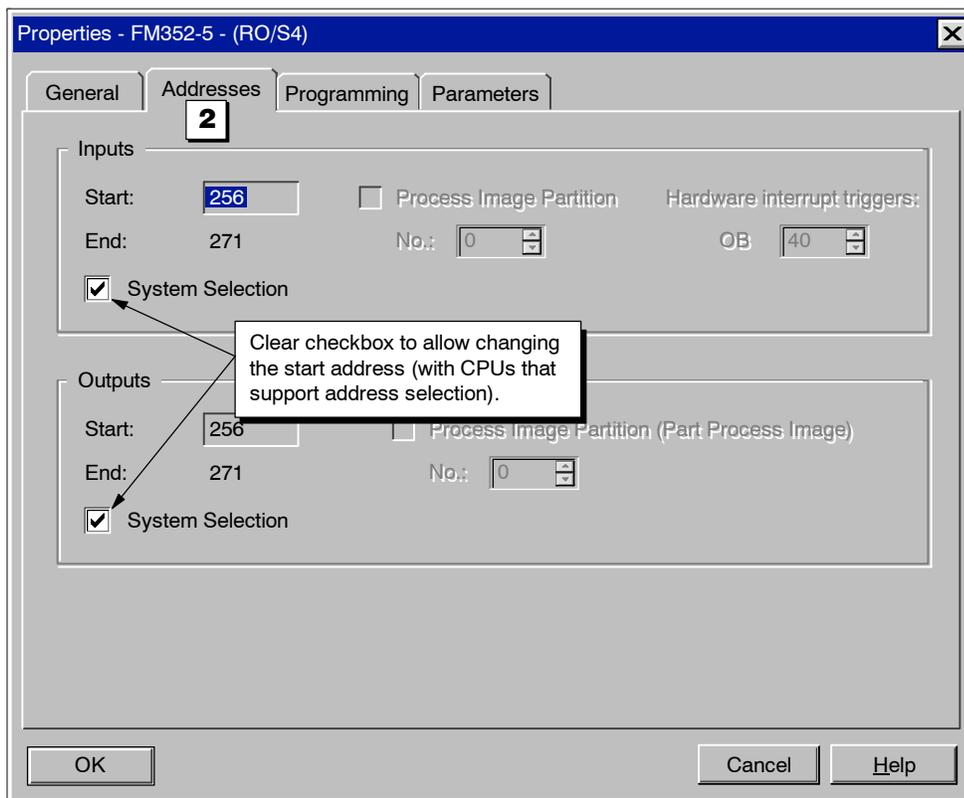

Figure 4-4 FM 352-5 Properties Dialog, Addresses Tab
- 2 The Addresses tab, shown in Figure 4-4, displays the system-selected address assignments for the inputs and outputs. You can change these addresses by unchecking the System Selection checkbox. The Start field can then be edited.